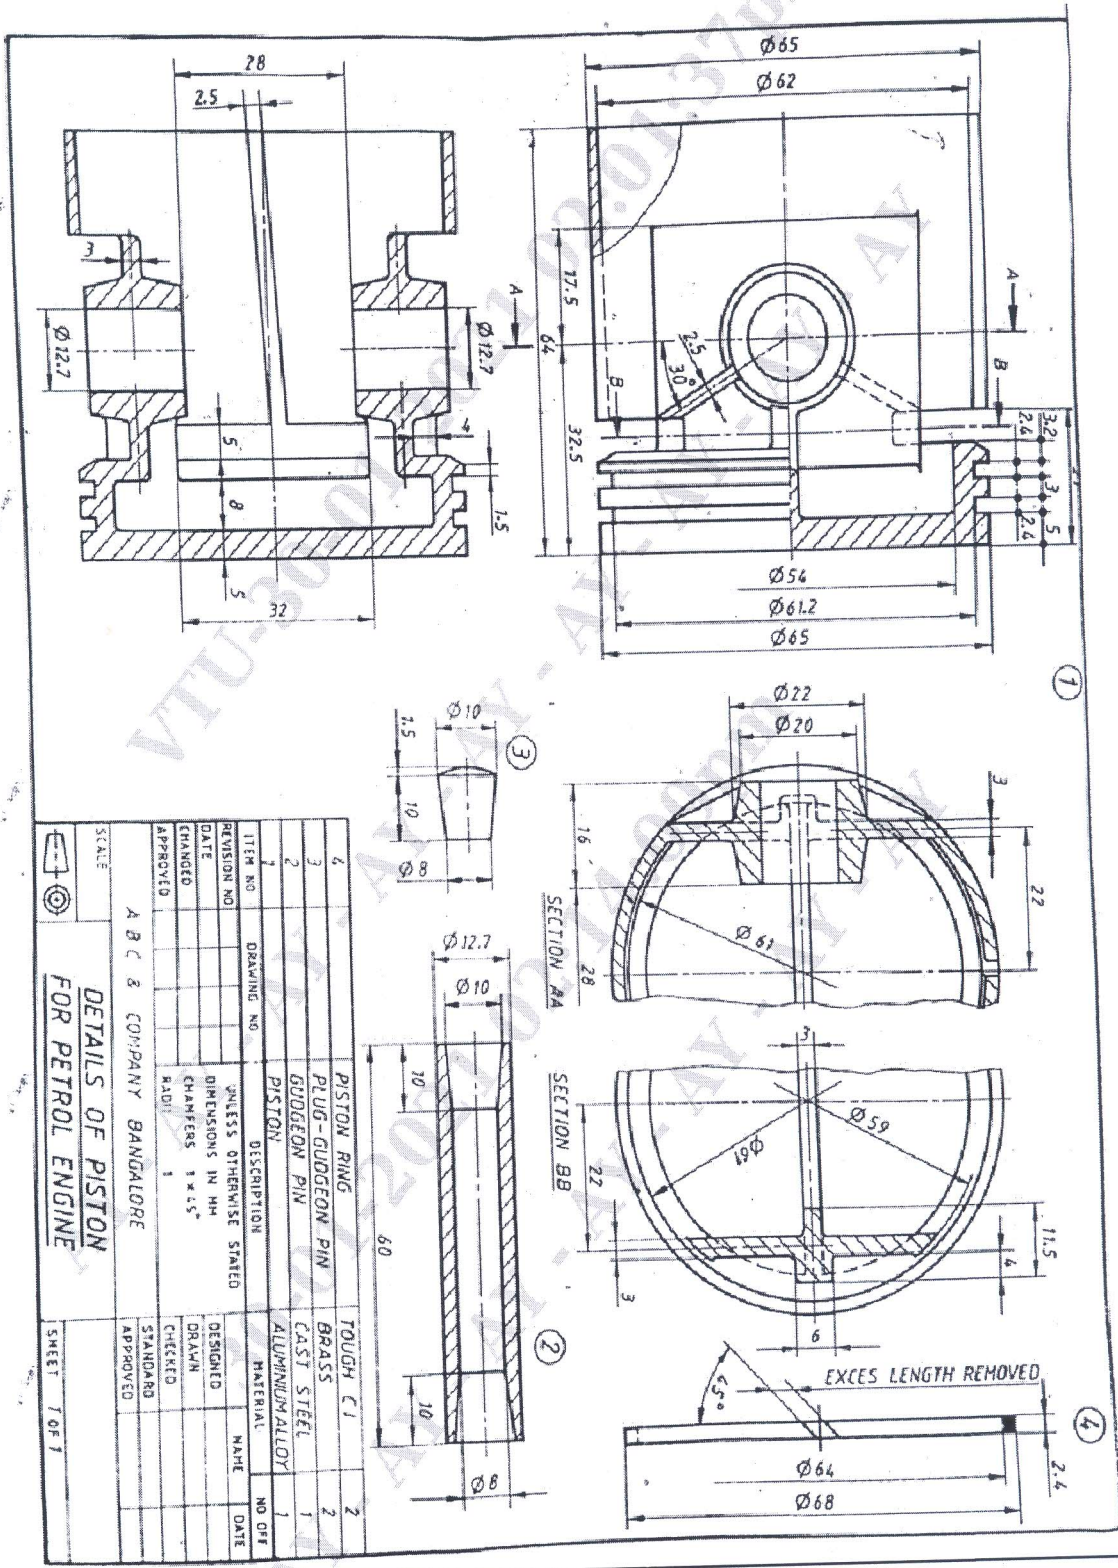

Figure 3
Q.No.6 Details of I C engine piston are shown in figure 3. Assemble the parts and draw the following views. i) Sectional front view ii) Top view. **(50 Marks)**